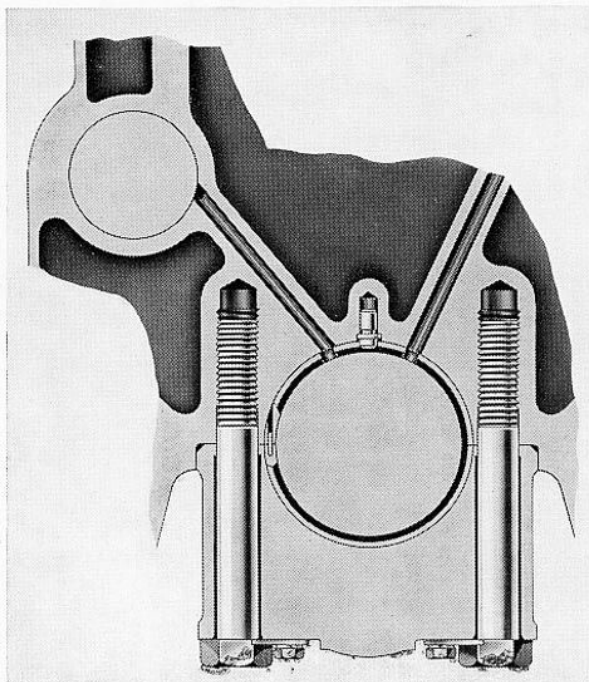

FIG. 7. SECTION THROUGH MAIN BEARING
precision manufactured to give correct running clearance without any scraping or adjustment. They are in two halves and are located together by pegs (Fig. 7). The centre one being flanged to take the crankshaft end thrust. The halves in the engine block are all dowelled to their seatings to prevent turning.
1. Thoroughly clean the backs of the bearing shells and their seatings in the crankcase and main bearing caps to ensure that the shells will bed down correctly. See that the locating dowels in the crankcase seatings and the pegs in the shell ends are securely in position, (Fig. 7), if applicable, then fit the shells in the caps and seatings so that all markings correspond. New bearing shells should be marked like the originals to avoid future confusion. Smear all shells with clean engine oil.